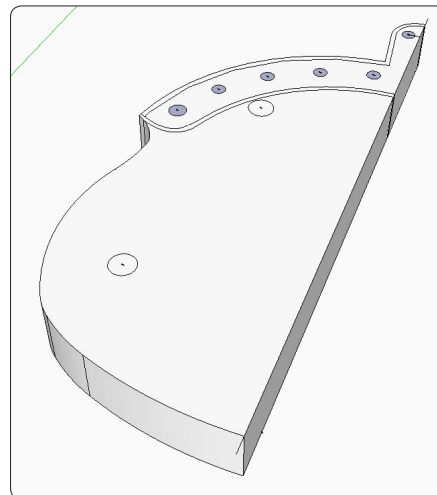

Figure 26. The seat blank, given its thickness and with socket locations drawn in place.
Step 3 Use the Push/Pull Tool to give the shaped seat its thickness, usually between 1¾ in. and 2 in. In this example, the seat is 1⅞ in. thick. You should have a component that looks like the one in Figure 26.